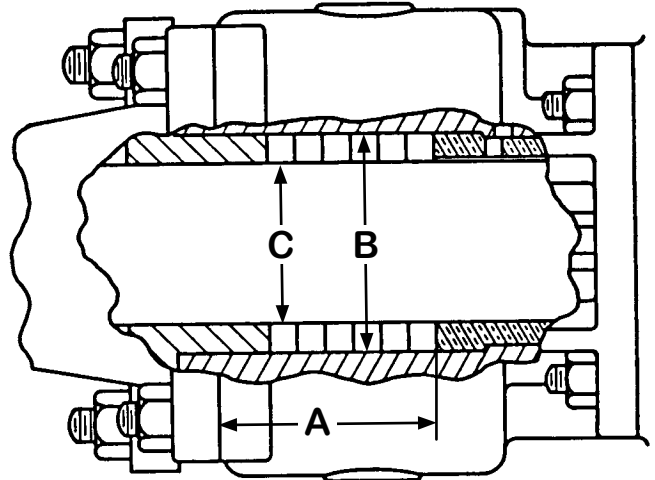

FIGURE 8
9. Pack pump with new packing. **Refer to Figure 8.** Models N and R333 have 6 rings of packing.